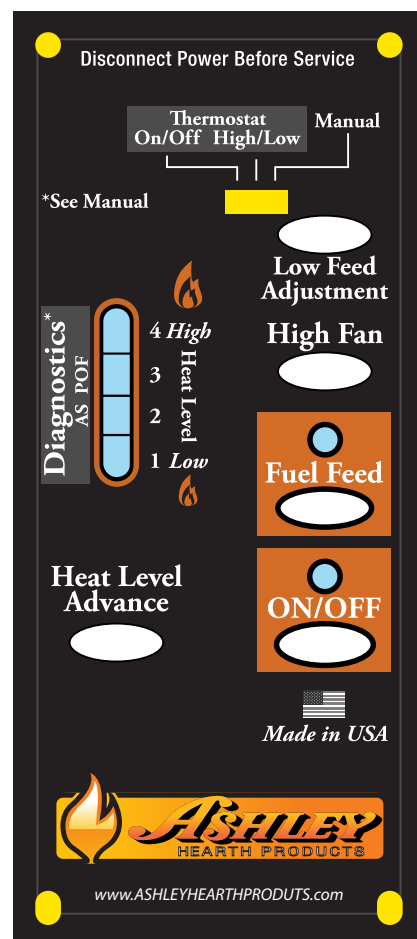

FIGURE 12
## PANEL CONTROLS (SEE FIGURE 12)
- The green light located above the On/Off button (in the On/Off box) will flash during the ignition start-up period. (See figure 12)
- While the stove's auger system is feeding pellets the amber light (in the "Fuel Feed" box) will be on. (See figure 12)